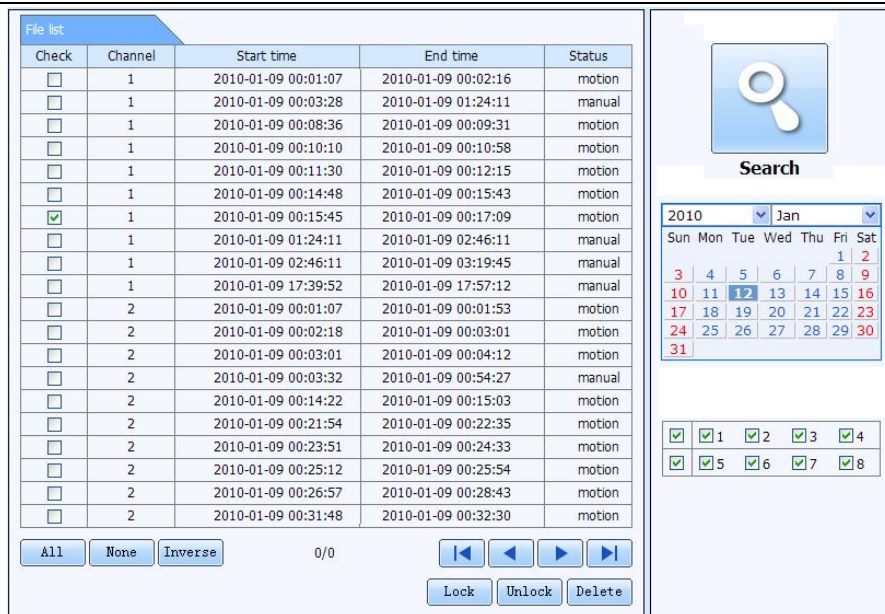

Fig 7.9 File Management Interface
Step1: Enter into Search → file management. Refer to Fig 7.9.